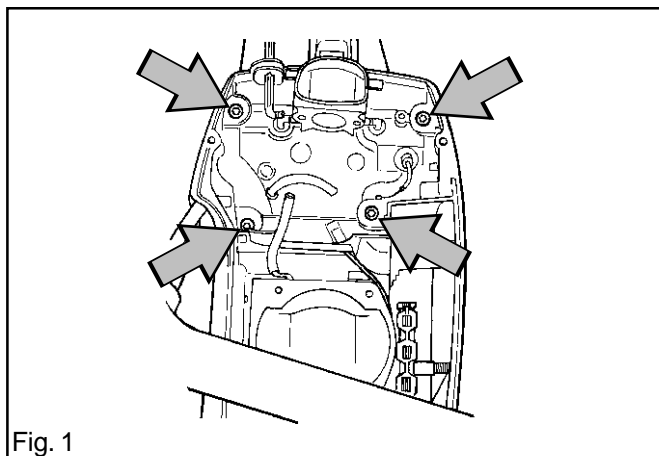

Fig. 1
2. Remove the carburettor space bottom by unscrewing the four bolts. See fig. 1.